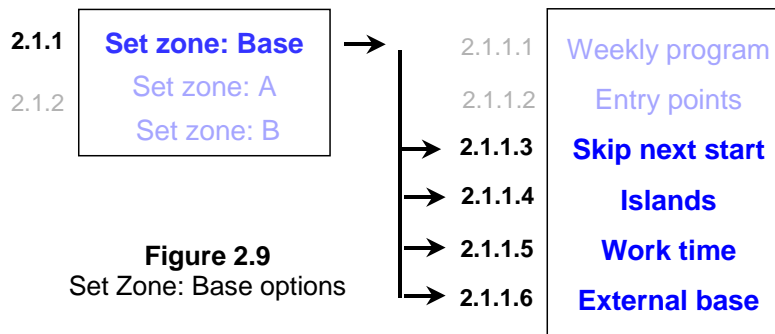

Figure 2.9
The **'Skip next start'** option allows user to skip the next scheduled operation (figure 2.9).
2. Under **'Set Zone: Base'** menu scroll to **'Skip next start'** option and press **'GO'** to set the option (see figure 2.9).
Setting this option to **'off'** allows the mower to acquire the Perimeter Wire immediately as starting to search for the Base Station with no need to converge to the end of the lawn (figure 2.9).